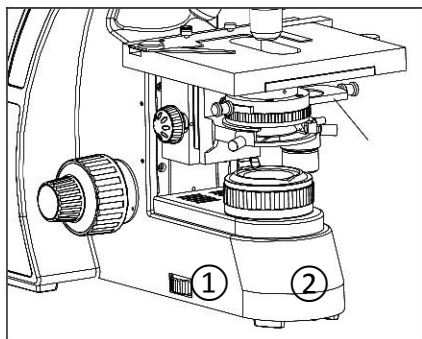

Fig. 25
When observing with transmitted light, the user should pull the filter slider ① to the right into the light path to allow transmitted light into the light path. (Fig. 25)
LED fluorescence filter block adjustment knob ① can be rotated 180° according to the arrow on the knob to switch between transmitted brightfield observation and LED fluorescence observation. (Fig. 25)